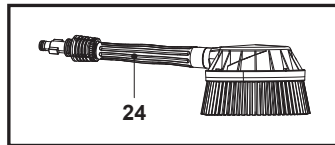

Fig. 15
The rotary brush (24) can gently yet effectively clean surfaces. It's ideal for use on vehicles, windows, and patio furniture, providing a scrubbing action that is tough on dirt but gentle on surfaces by combining water pressure with brush action (Fig. 15).